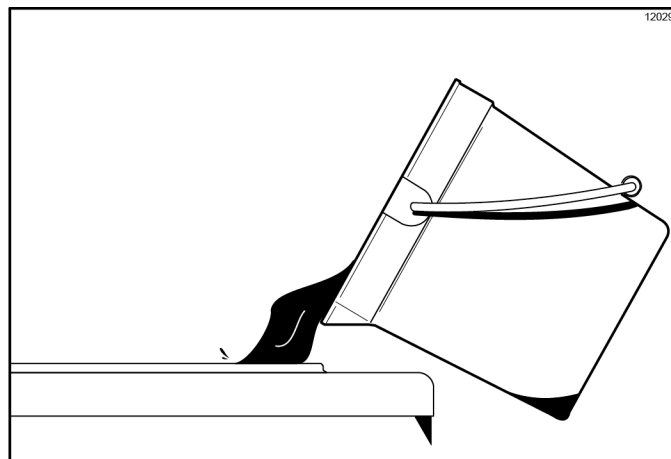

Figure 6-58
1. Pour 2-1/2 gal (9.5 L) of cool, clean water into the mix hopper. Using the white hopper brush, scrub the mix hopper, mix-level sensing probes and the outside of the agitator driveshaft housing. With the double-ended brush, brush-clean the mix inlet hole. (See Figure 6-58.)